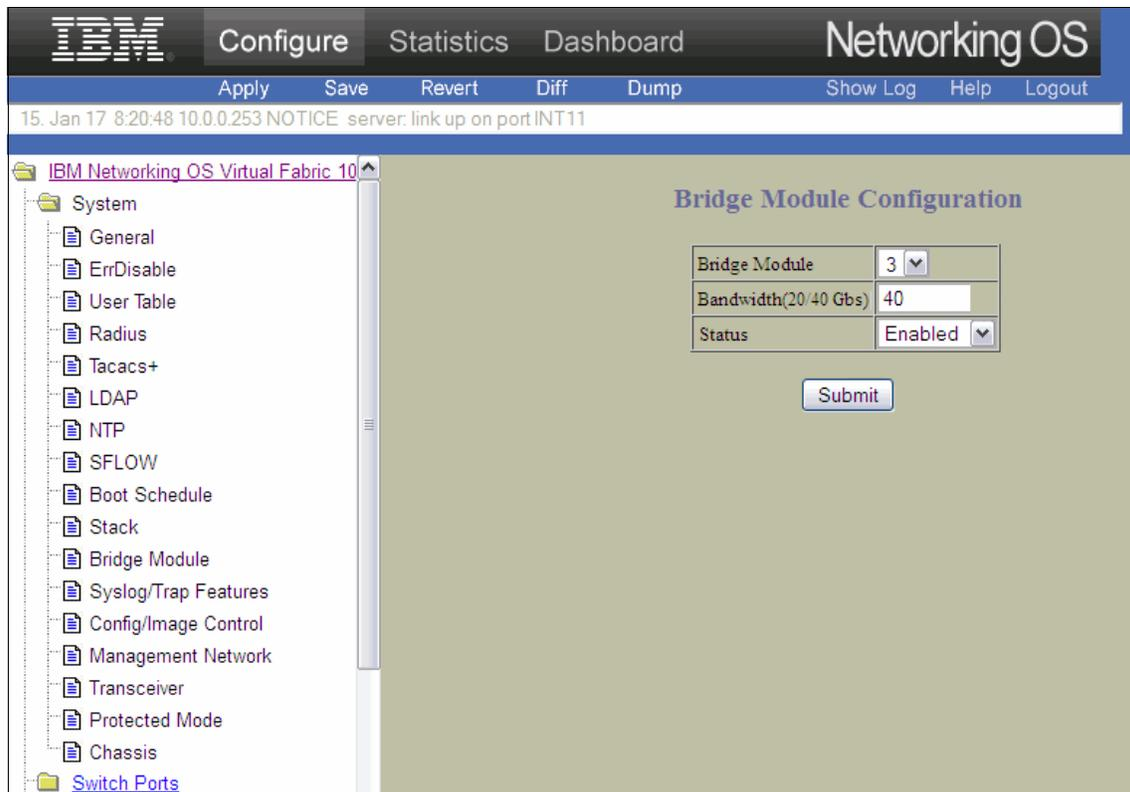

Figure 10-77 Bridge Module Configuration window
- a. As shown in Figure 10-77, select **Configure**.